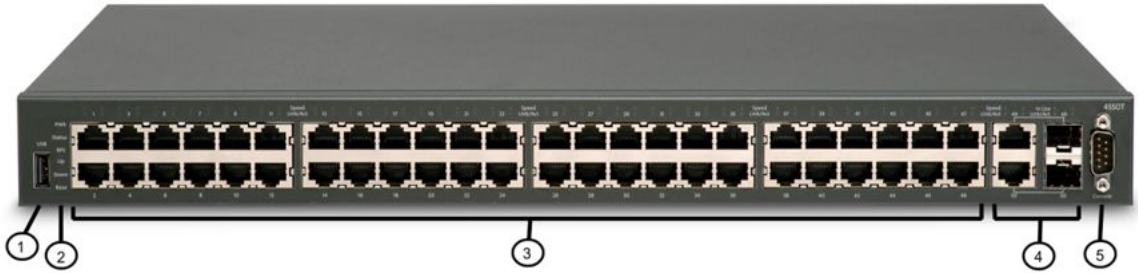

Figure 9: Avaya Ethernet Routing Switch 4550T
- Figure 9: Avaya Ethernet Routing Switch 4550T on page 47